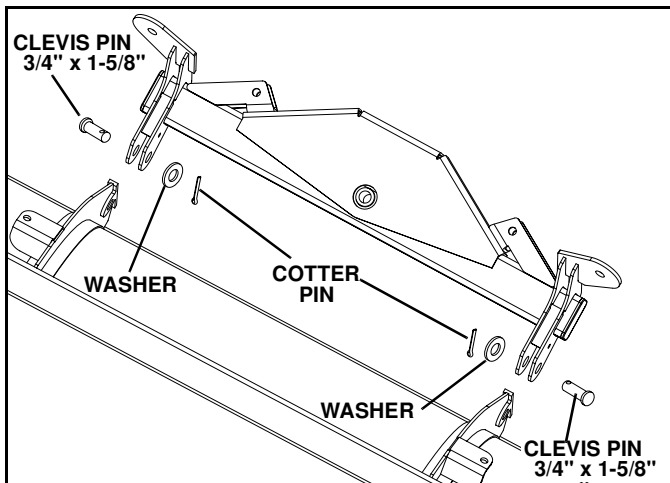

Figure 2-2
4. Install swing frame on blade, aligning the ribs on either side of the center rib between the swing frame lugs. Insert 3/4" x 1-5/8" clevis pins from blade parts bag through the mounting holes in the swing frame and blade from the outside, securing at the inside with washers and cotter pins. (See Figure 2-2).